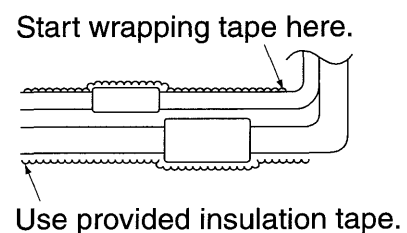

Fig. 12
2. Tape the liquid and gas pipe together from the bend up to where they enter the unit. **(Refer to Fig. 12)**